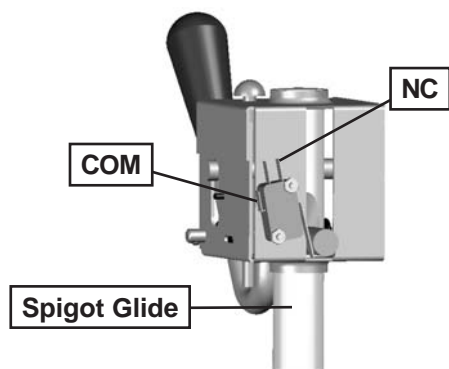

Figure 6-8 Spigot Cam Assembly
2. The clicking sound should be within the first 1/2" of the spigot glide movement (Refer to Figure 6-8). If the switch does not close, an adjustment may be necessary.